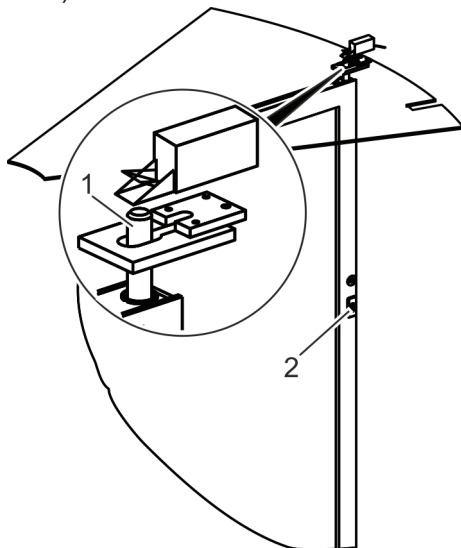

Fig. 25 Unlocking the rod locking device (option)
1. Release the rod locking device using the lock cylinder (Fig. 25/2).
- » The rod locking device (Fig. 25/1) is located in the wing.